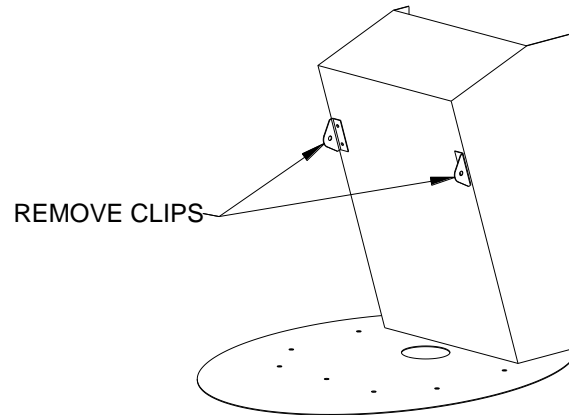

FIGURE 1
- 3.2. Remove the two clips from the aft wall of the instrument panel support structure (radio bay) as shown in Figure 1 and retain them with the factory console.